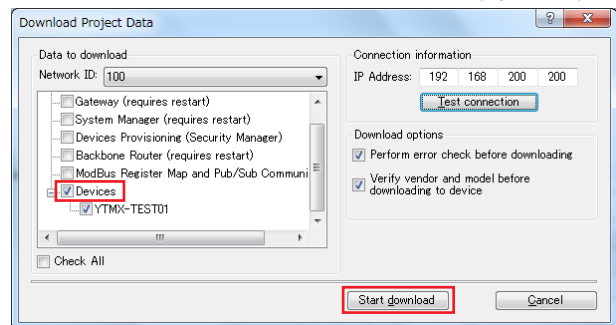

Figure 27
- ⑥ Click Close to close the dialog box. Select the Devices check box, and then click Start download (figure 27).